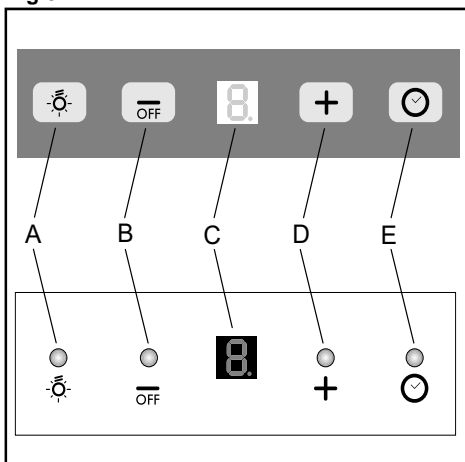

Fig.11
**COMANDS:** (Fig.11)
• **Active carbon/grease filter saturation:** Fig.11